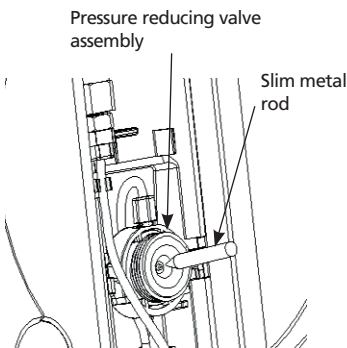

Figure 31
1. First of all, use a thin metal rod with a pointed tip to pick out the connector sealing ring (Figure 31), take out the cylinder connector (if you just change the connector sealing ring, you don't need to take out the cylinder connector), and be careful not to damage other parts of the pressure reducing valve;